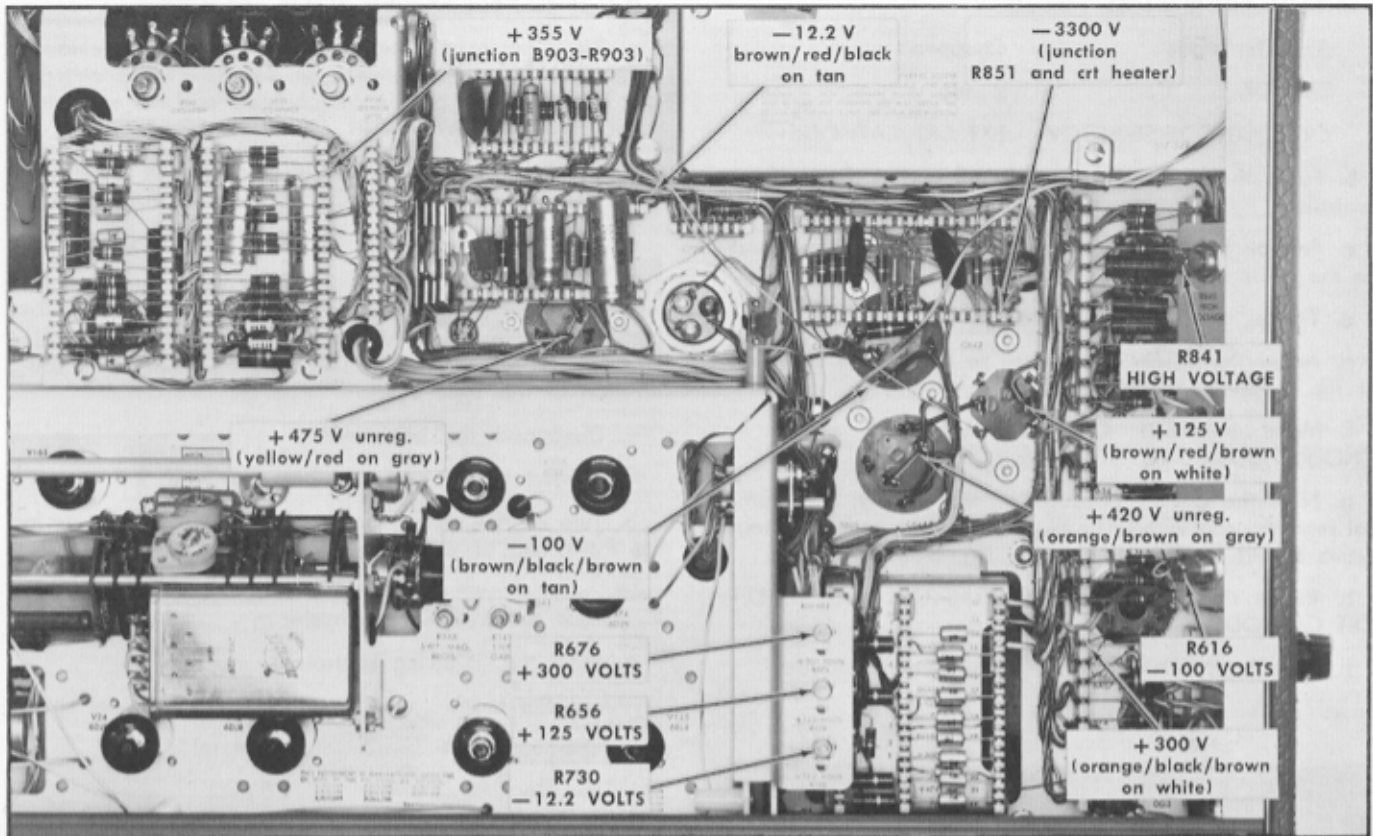

Fig. 5-1. Voltage test points and adjustments on right side of Type 564.
Refer to Table 5-1 for output voltage, regulation and ripple tolerances during the following checks. Make adjustments in the sequence given in the table. Test points and adjustment controls are shown in Fig. 5-1.
a. Connect the dc voltmeter between each unregulated voltage test point (see Fig. 5-1) and ground.
a. Connect the dc voltmeter between the -3300-volt test point (see Fig. 5-1) and ground.